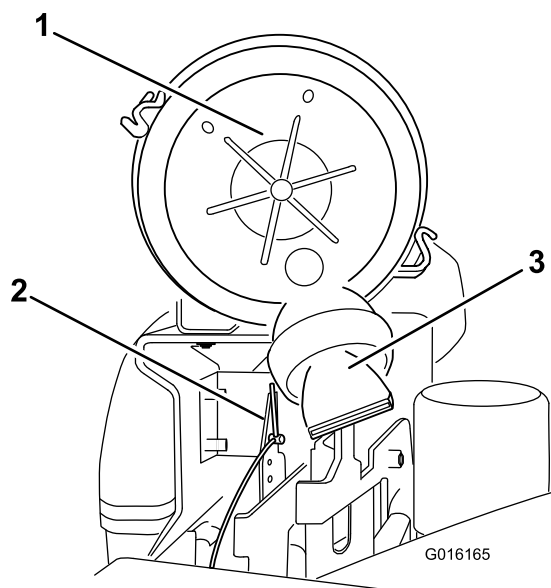

Figure 1
2. Position the air cleaner cover so that the breather valve does not interfere with the throttle mechanism (Figure 1).